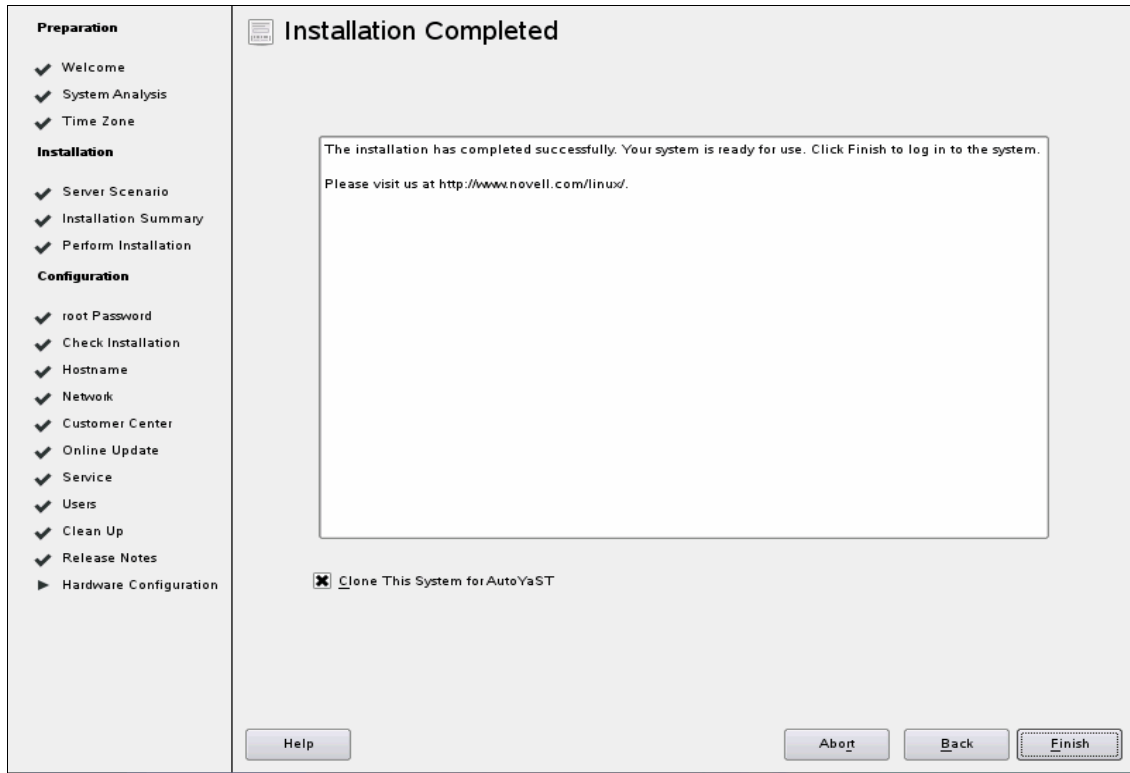

Figure 12-52 Installation Completed window
7. After the installation is complete, the Installation Completed screen opens, as shown in Figure 12-52. Click **Finish**.